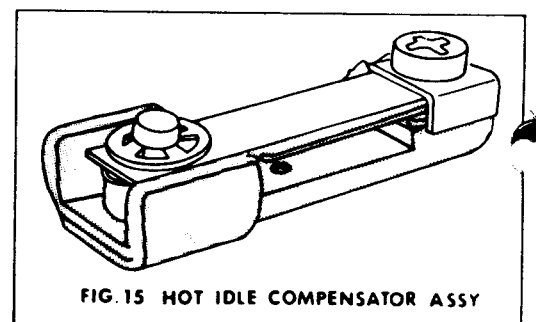

FIG. 15 HOT IDLE COMPENSATOR ASSY
8. If replacements are available, disassemble (refer to Figs. 15,16) as follows: Mark position of screw (for re-assembly) then remove along with retainer. Lift off bimetallic assembly, shims, push-on nut with valve disc attached. Next, split push-on nut using cutting pliers and carefully pry off from valve disc stem. Separate valve disc from bimetallic assembly.
9. Detach main body (63) from throttle flange assembly (99) by removing two short screws with lockwashers (97) and one long screw with lockwasher (96). Then gently tap carburetor at parting surface to separate castings. Carefully lift main body (63) from throttle flange assembly (99). Next, peel off gasket (98) and retain for matching purposes only.